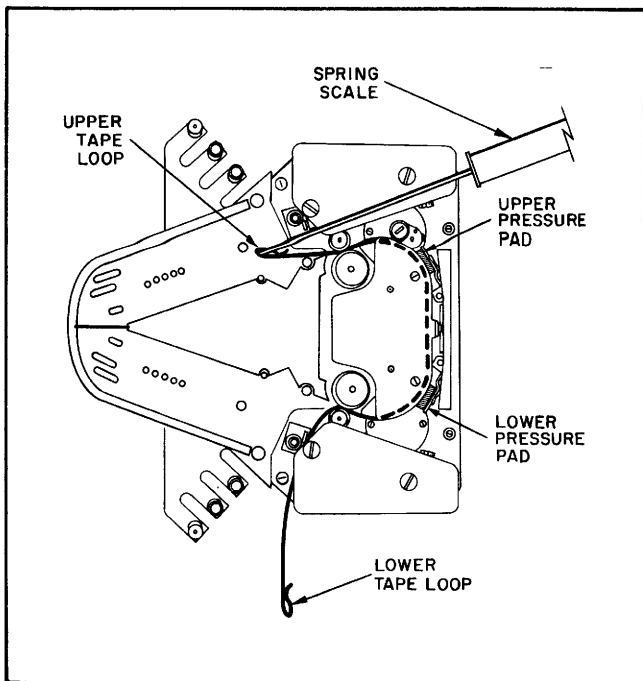

Figure 6-3. Checking Drag Pads
a. Thread three foot strip of tape through the drive mechanism and hook spring scale to loop as shown in figure 6-3.